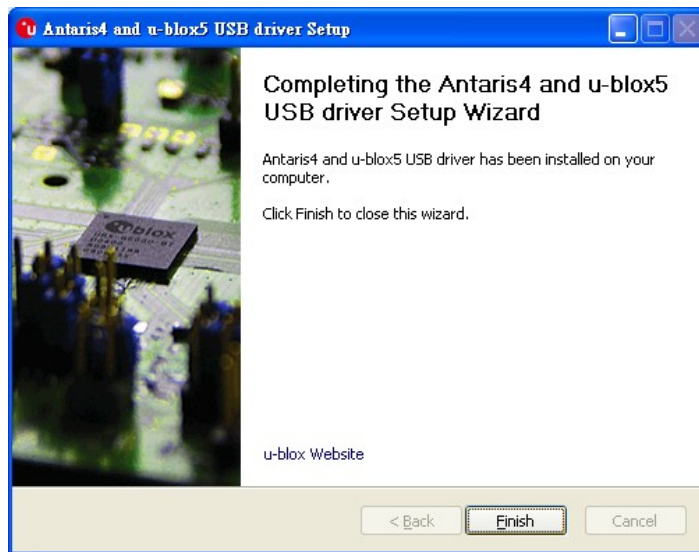

Figure 5-34: GPS Driver Installation Complete
Step 10: When the driver installation is complete, the screen in **Figure 5-34** appears.